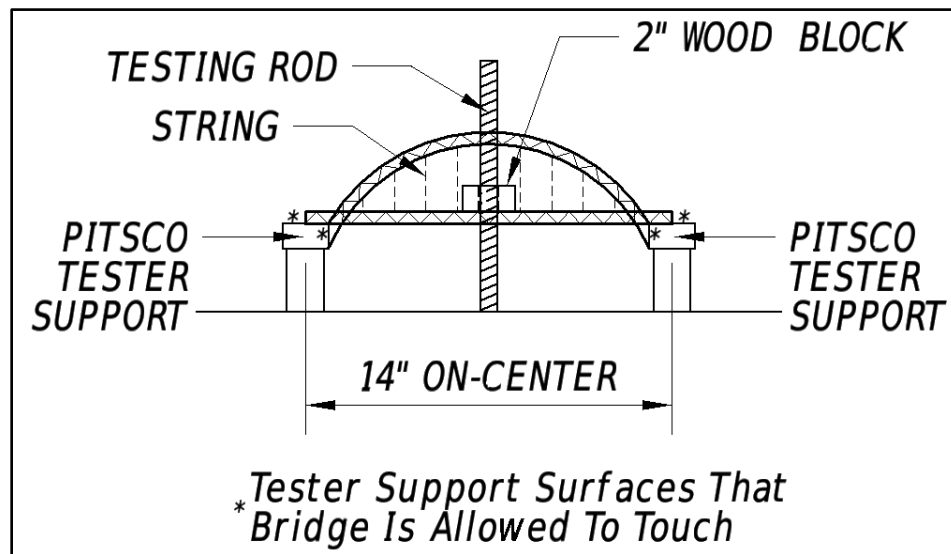
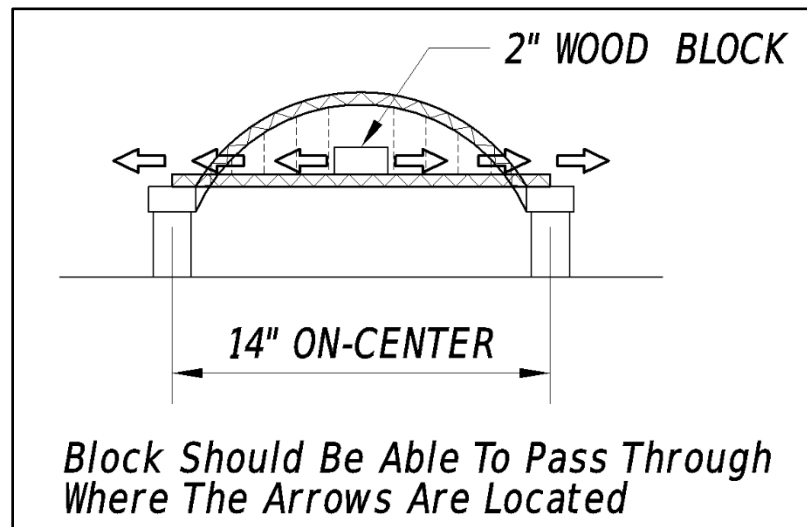
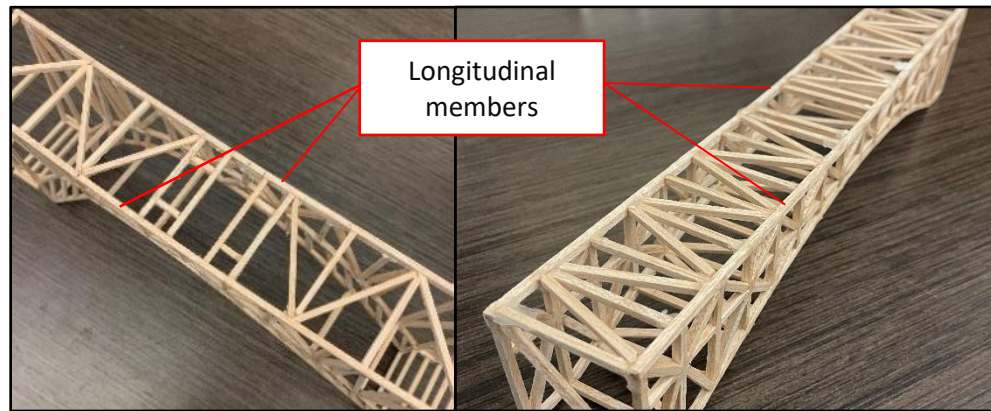

Figure 7. Tester Configuration Detail
Figure 9. Block Requirement
Figure 10. Acceptable Cross Framing
- e) End to end, the length of the entire bridge must be 14 inches, refer to Figure 7.
- g) The area where the bridge will be loaded (center of the bridge) must have at least a $\frac{3}{4}$ -inch hole to allow a $\frac{5}{8}$ -inch testing rod to pass through. The rod must also be able to pass through full height of the structure to insert the rod into the tester. This is required to attach the rod to a 2-inch x 2-inch block of wood used for strength testing by the Pitsco Tester. An example configuration can be seen in Figure 7. The block of wood must be able to pass through the loading surface of the bridge (a solid bridge deck of any kind is not allowed), refer to Figure 9. No more than 2 longitudinal members will be permitted in any single horizontal layer of the bridge structure (refer to Figures 10 & 11 for more detail). Please note, figures do not represent the required design and shall only be used for reference.
- h) Tester supports will be placed at 14 inches on center. Support dimensions are shown above in Figure 7.
- i) The bridge is allowed to touch the tester support surfaces ONLY where shown by the "*" in Figure 7. Bridges are not allowed to touch any portion of the tester not denoted by "*" in Figure 7. **It is recommended, but not required, to utilize both the horizontal and vertical support surfaces (denoted by "**") for strength advantages.**
- k) The following will result in a bridge receiving a strength-to-weight ratio of zero (0). PLEASE NOTE, if you have questions or concerns of violating any of these, please contact us.
- iii. Laminations greater than two (2) layers in any direction (see figures above).